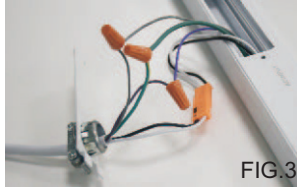

FIG.3
3. Plug the female connector of the luminaire input sides onto the male connector of the AC input cable (FIG.3) (Black wire with B, Ground wire with the middle, and white wire with the last one). Dimming wires connect according to the same wire color.